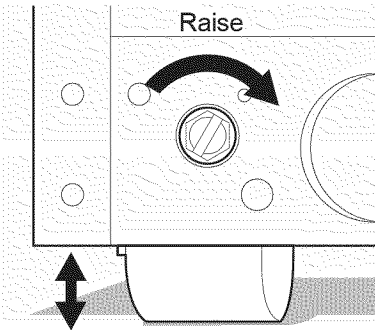

Figure 2
- 2 Use a flat-blade screwdriver or  $\frac{3}{8}$  inch socket wrench to raise or lower the front rollers (Figure 2).